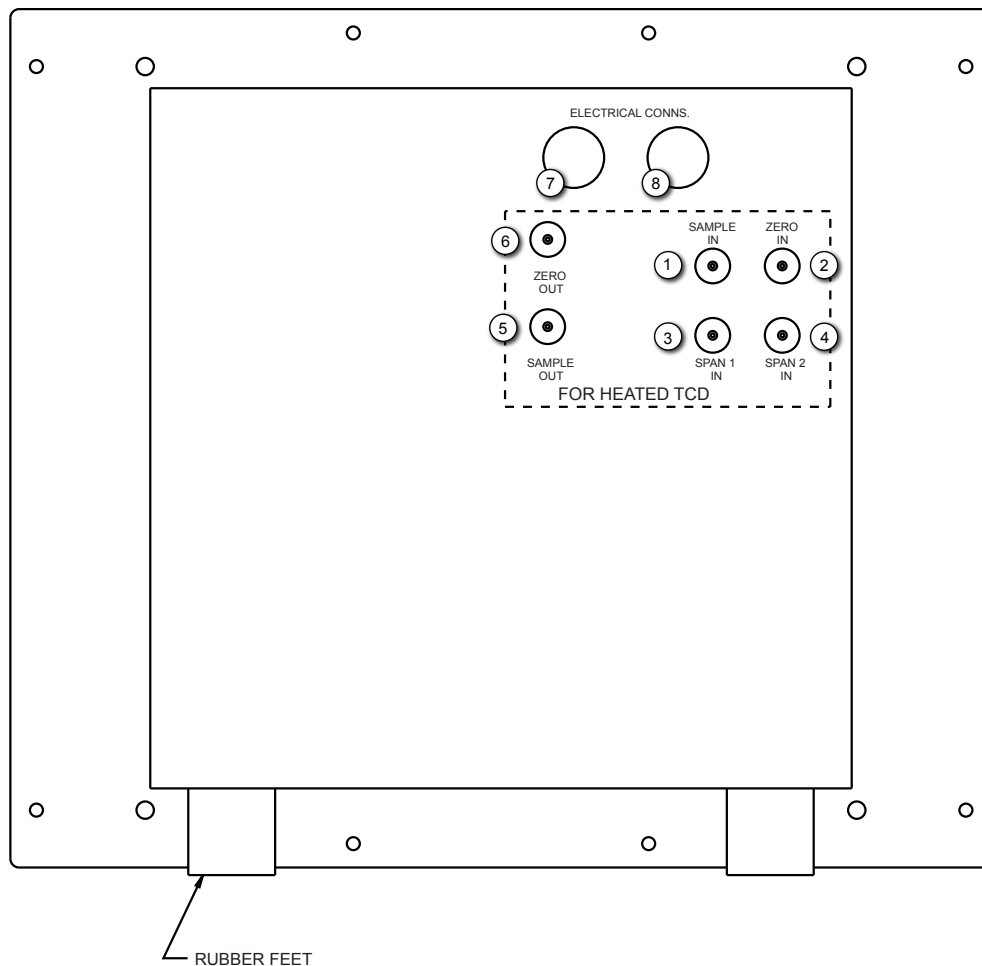

Figure 5-3 Rear panel - Heated TCD
5.2.2 For HEATED TCD (Figure 5-3)